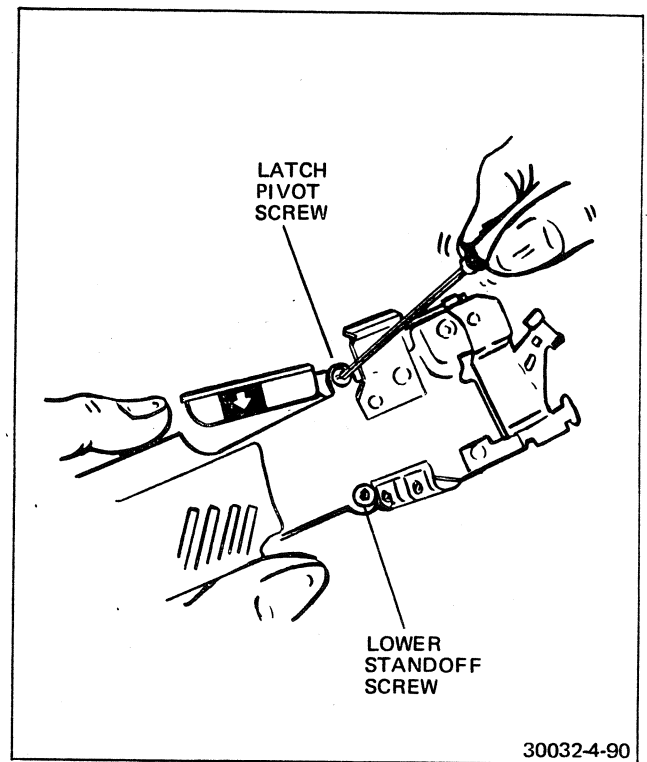

FIGURE 4-90 REMOVING FRONT COVER LATCH
1. Remove the two screws: (Figure 4-90). The first is a machine screw on which the latch pivots.